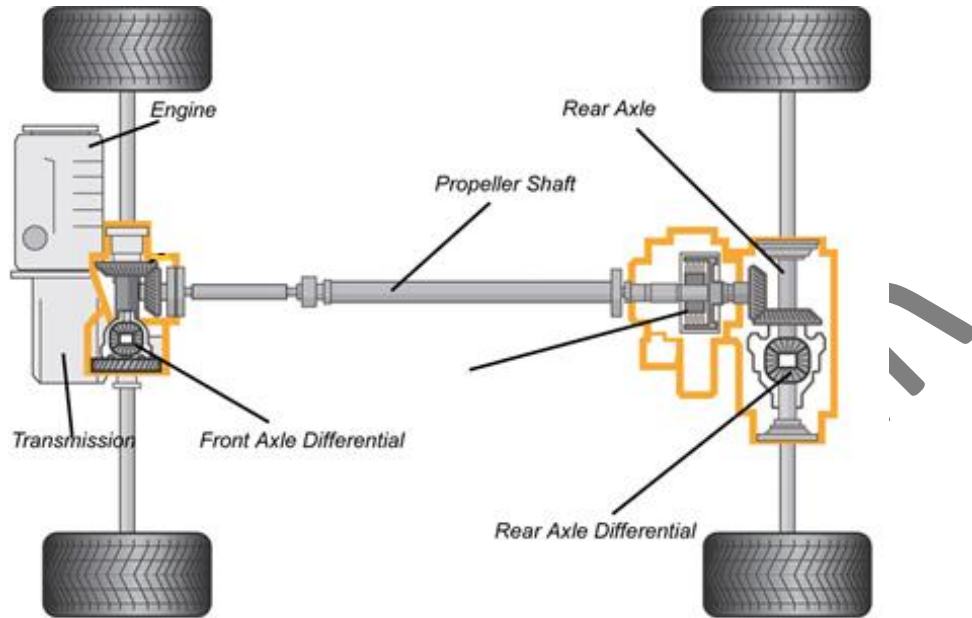

Figure 2
A typical vehicle drive train layout is shown in Figure 2.
- a) How many wheels are driven in Figure 2? (1 mark)
b) State **two** benefits of using the drive train layout in Figure 2. (2 marks)